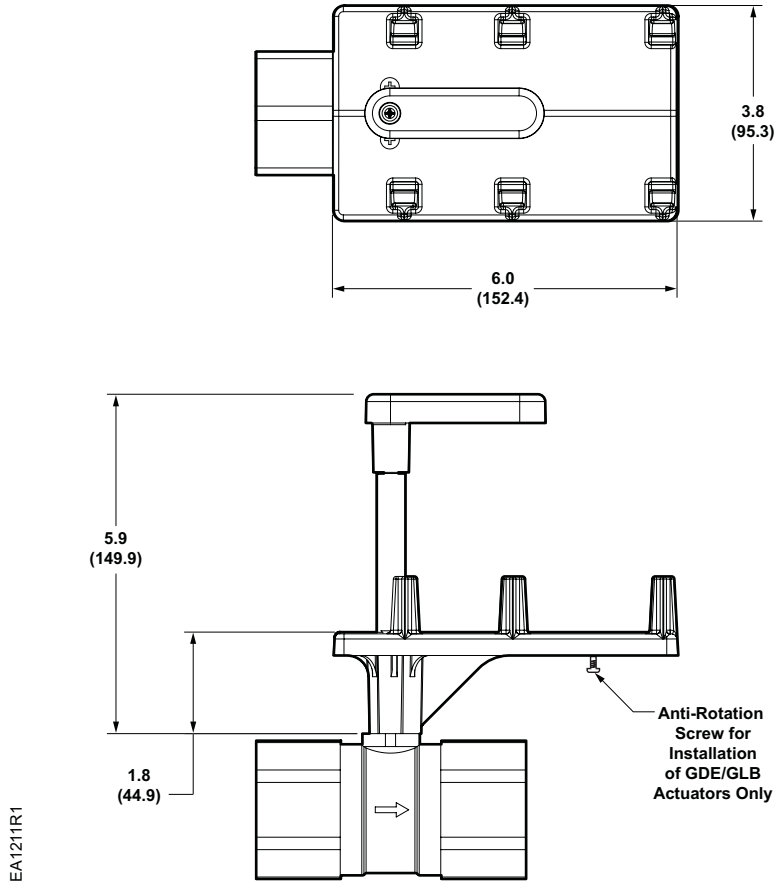
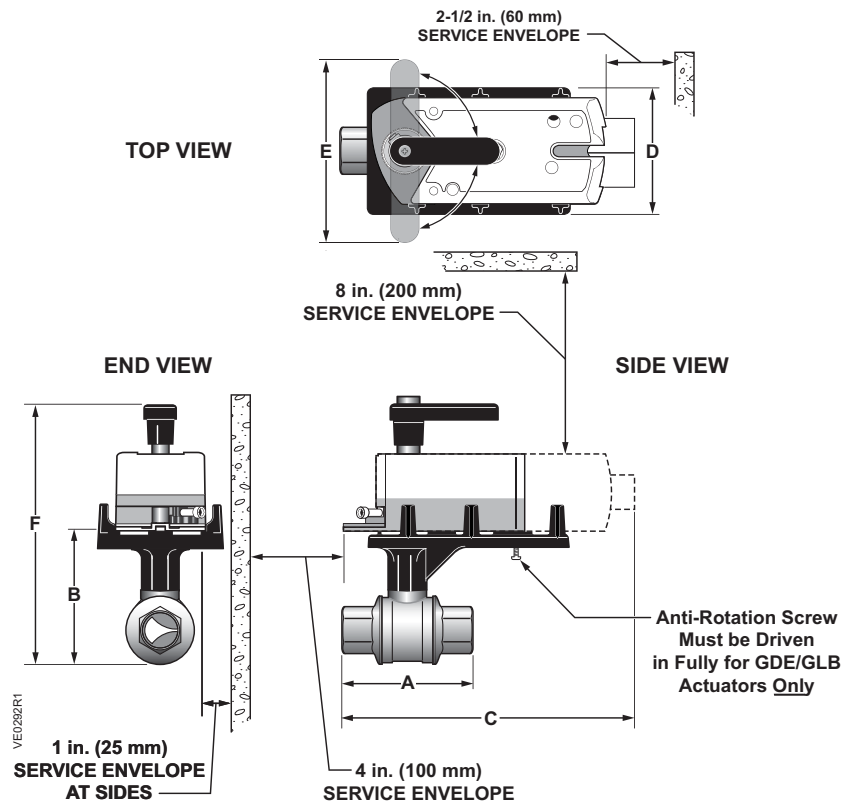

Figure 6. Ball Valve Bracket in Inches (Millimeters).
Figure 7. Two-way Ball Valve and Bracket with Actuator Dimensions in Inches (Millimeters).
6. For GDE/GLB actuators, an anti-rotation screw must be driven in fully. (See Figure 6 and Figure 7.)
NOTE: The GQD actuator will rest on the lowest step. The GMA actuator will rest on the second lowest step of the bracket. See Figure 6